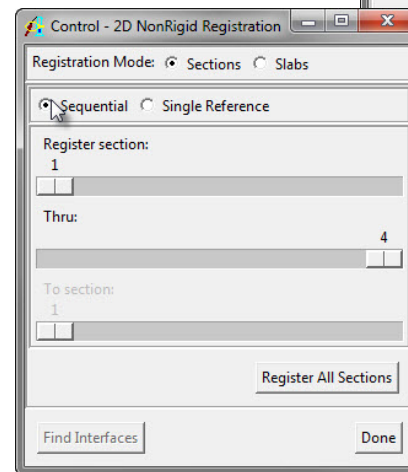

Figure 2
5. Select **Sequential** (figure 2). Do not close the **Control** window.